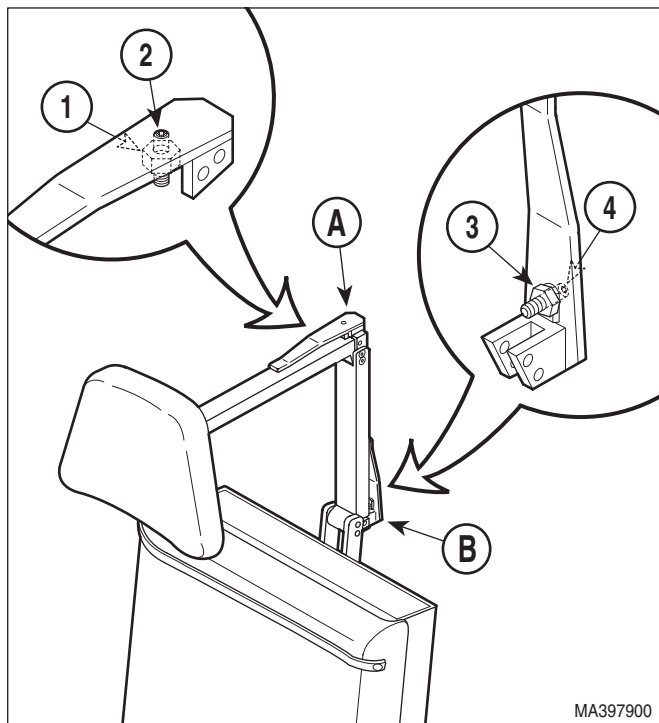

Figure 4-31. Headrest Handles Handle Stops Adjustment
- (1) Loosen nut (1, Figure 4-31).
- (2) Push on upper lock handle until it reaches a point where the upper lock handle wants to lock itself by going over center; then allow upper lock handle to go over center a few degrees. Hold the upper lock handle in this position and adjust stop screw (2) so the upper lock handle will be forced to stop in this position each time it is locked.
- (3) Tighten nut (1).
- (4) Loosen nut (3).
- (5) Push on lower lock handle until it reaches a point where the lower lock handle wants to lock itself by going over center; then allow lower